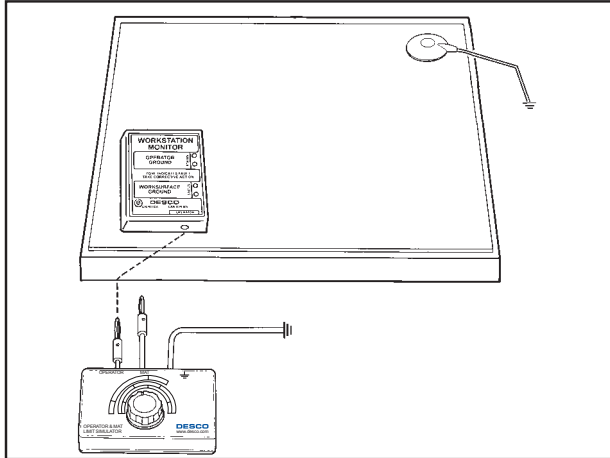

Figure 6. Connecting test lead from 98220 to 19212.
**Step 2:** Insert the calibration unit's banana plug marked "Operator" into the jack marked "Operator" on the 19212 tester. See figure 6.